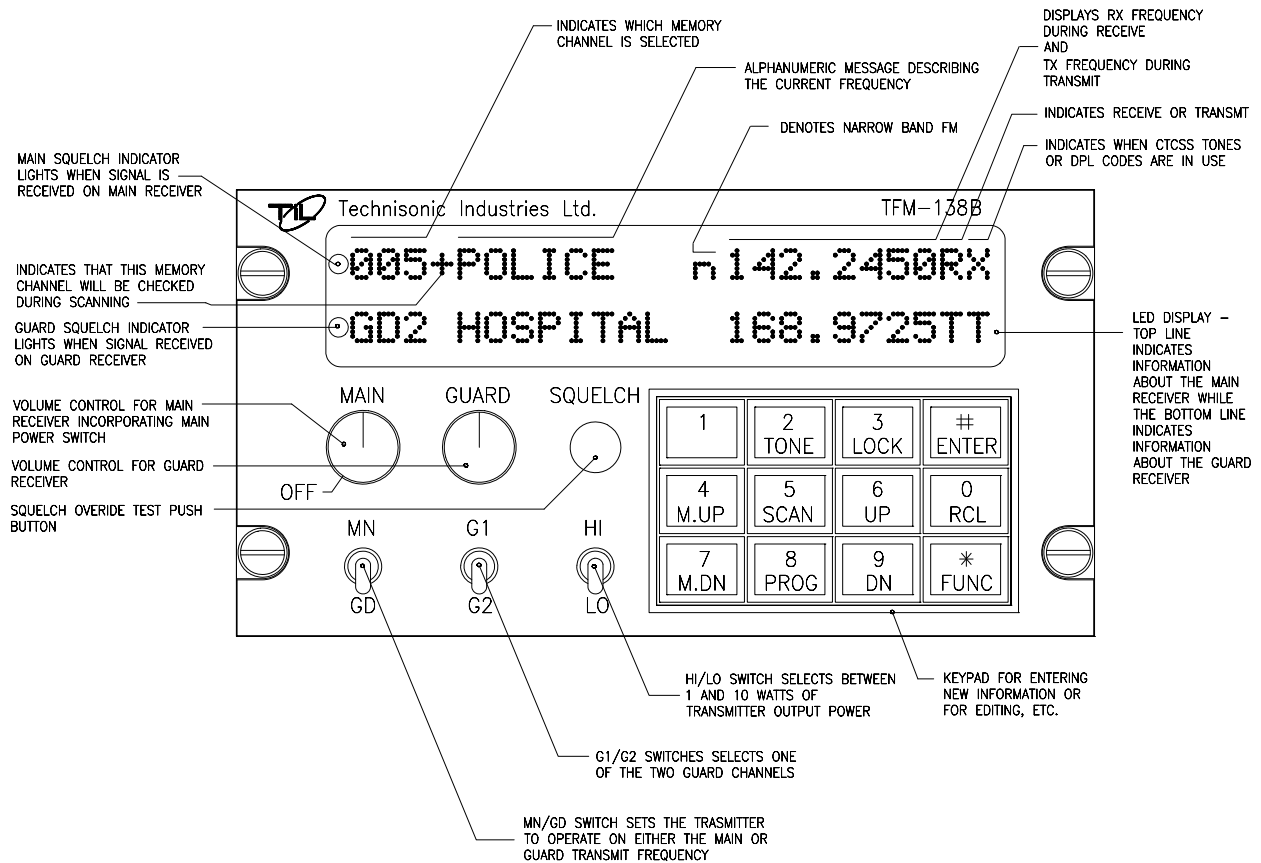

FIGURE 2.1 TFM-138B Operator's Switches and Controls
2.2 OPERATING INSTRUCTIONS (See Figure 2-1)